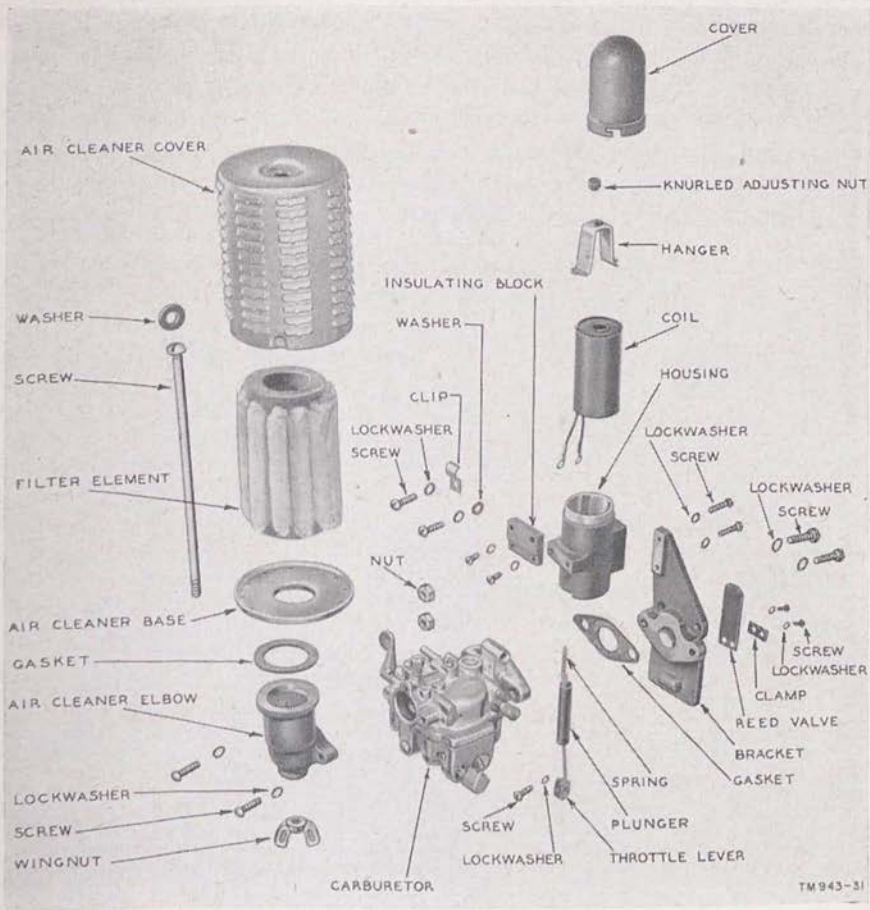

Figure 31. Air cleaner, electric governor, and carburetor
(fig. 31.)
a. Separate the carburetor from the electric governor (figs. 31 and 32).
- (1) Remove the two screws that hold the carburetor to the governor mounting bracket.
- (2) Loosen the screw on the throttle lever attached to the solenoid plunger and throttle shaft.
- (3) Slide the throttle lever from the throttle shaft. Separate the governor from the carburetor.
- f. Remove the idle adjustment screw (20), spring, idle tube and gasket. Also remove the main nozzle channel-plug screw from the upper body.
64. Electric Governor (fig. 31)
a. Clean the muffler body, stud, and head with solvent (SD). Dry thoroughly.
a. REED VALVE INSPECTION (fig. 31). Check the carburetor reed valve to be sure that it seats fully. The reed is concave approximately .002 inch. *To function properly, the concave side of the reed*
c. **INLET NEEDLE AND SEAT**. A constant gasoline level in the bowl and all channels of the carburetor is maintained by inlet needle and seat assembly (C) and float (F).
- (1) Separate the fuel bowl assembly from the upper assembly and gasket (par. 63*b* and *c*).
- (2) With the fuel bowl assembly held in the upside down position, then the lowest point of the float, at its free end, should project $\frac{1}{64}$ of an inch below the rim of the fuel bowl. If resetting is required, remove the float (par. 63*d*) and slightly bend the vertical float lever to obtain proper measurement. When inspection indicates that the fuel level continues to rise beyond the float setting point, remove the inlet needle and seat and clean their seating surfaces with a soft cloth. Place the inlet needle in its seat and tap very lightly while turning the inlet needle with the thumb and forefinger several times to reseat. Reinstall, then, if the proper fuel level is not maintained, install a new inlet needle and seat assembly. (*Do not change float setting from manufacturer's specifications.*)
72. Air Cleaner (fig. 31)
(fig. 31)